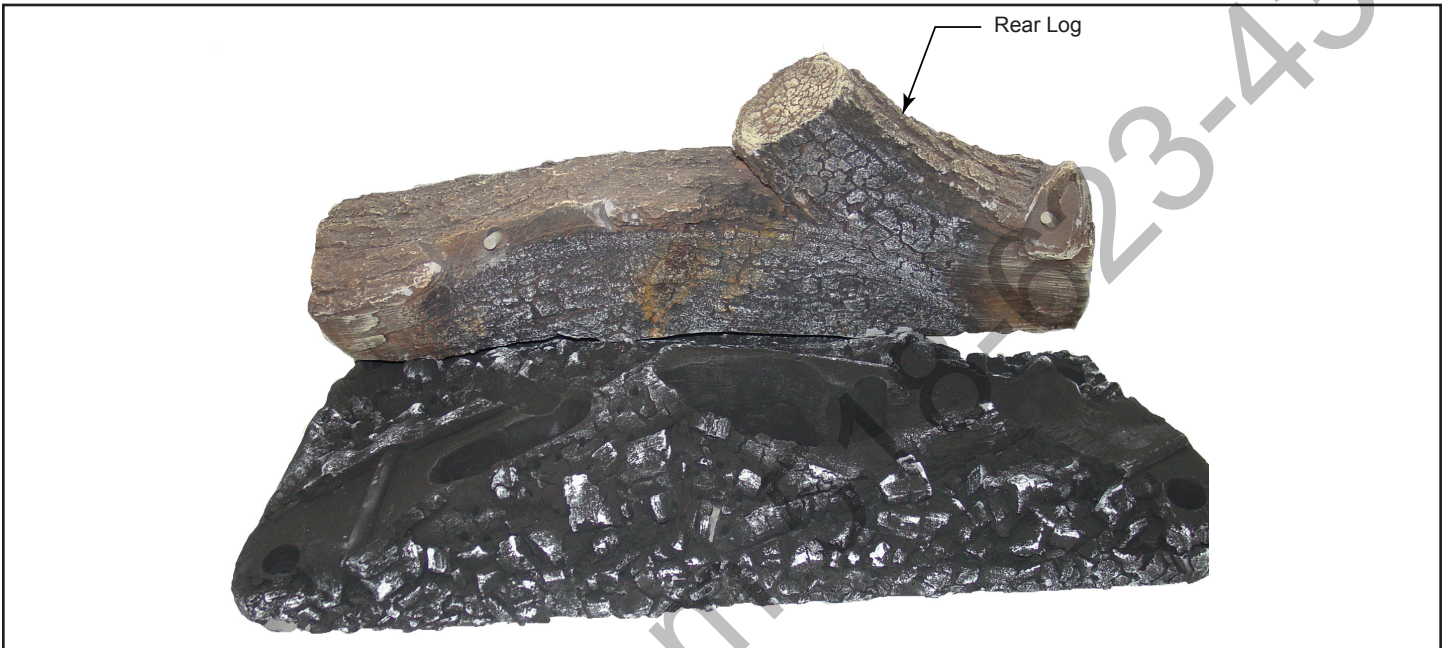
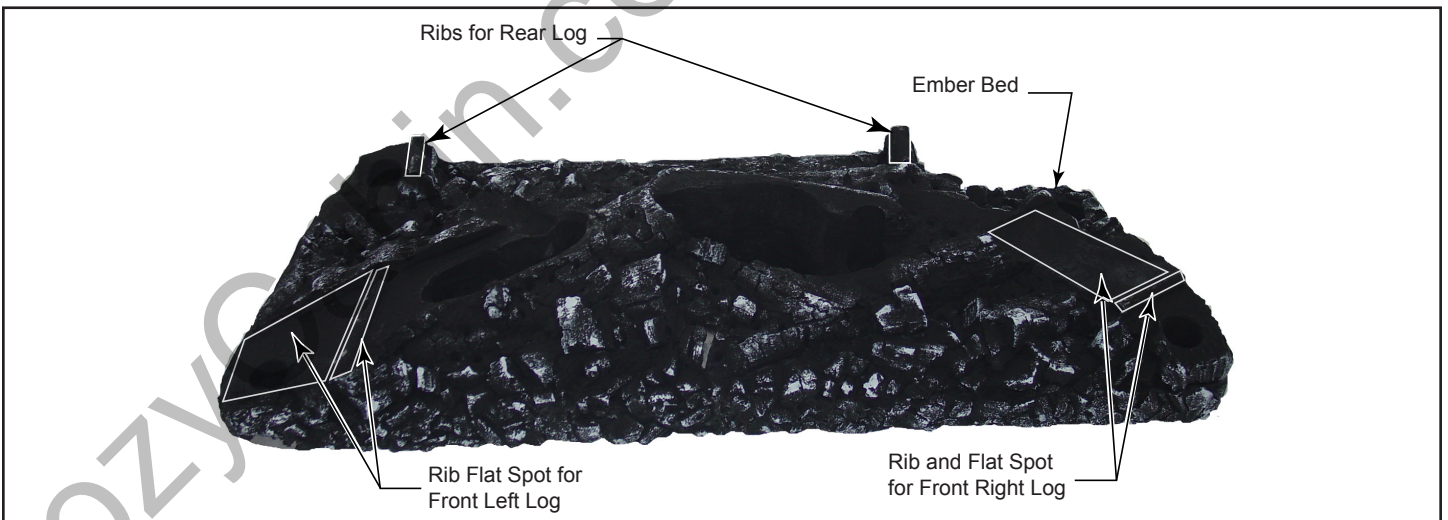
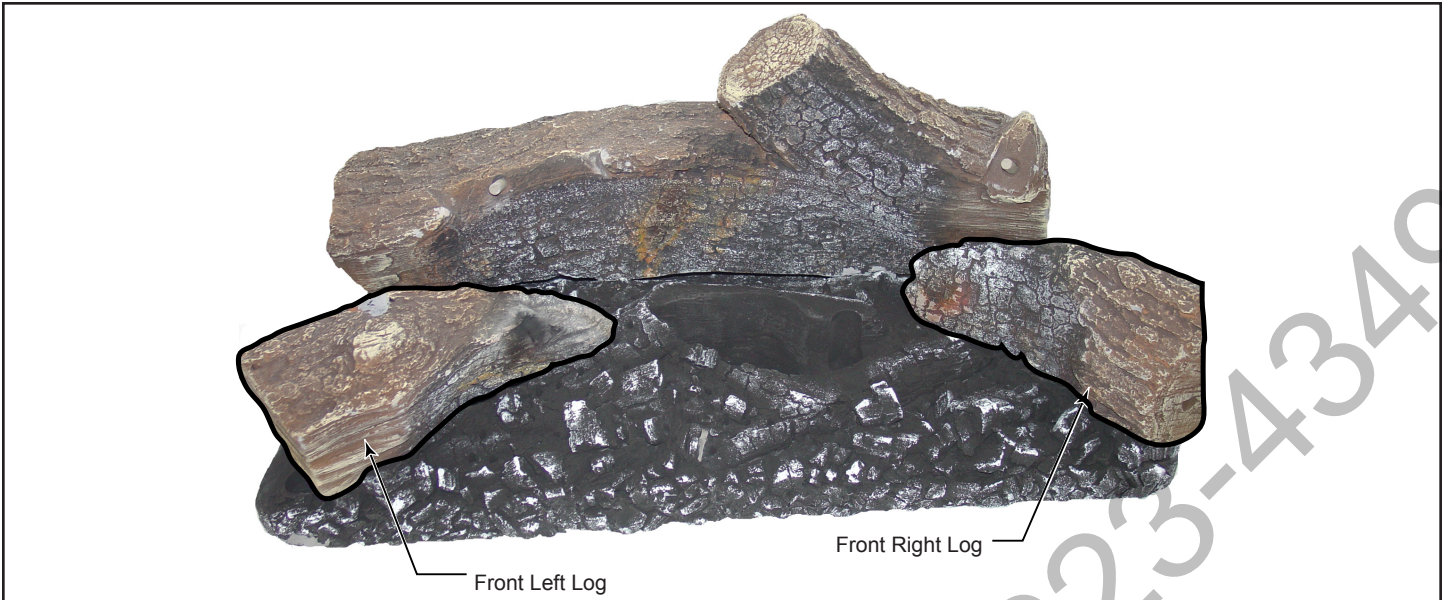

Figure 15
Figure 16
Figure 17
- a. Install the rear log by placing it on the ember bed toward the back of the firebox. (Figure 15) The log should touch the back wall of the firebox. When the log is in place, the two (2) notches on the bottom of the log rest on the two (2) ribs on the back side of the ember bed. (Figure 16)
- b. Install the front left and right logs (Figure 17) by placing them on the ribs shown in Figure 16. Make sure the logs line up with the flat spots on the ember bed intended for location purposes. (Figure 16)